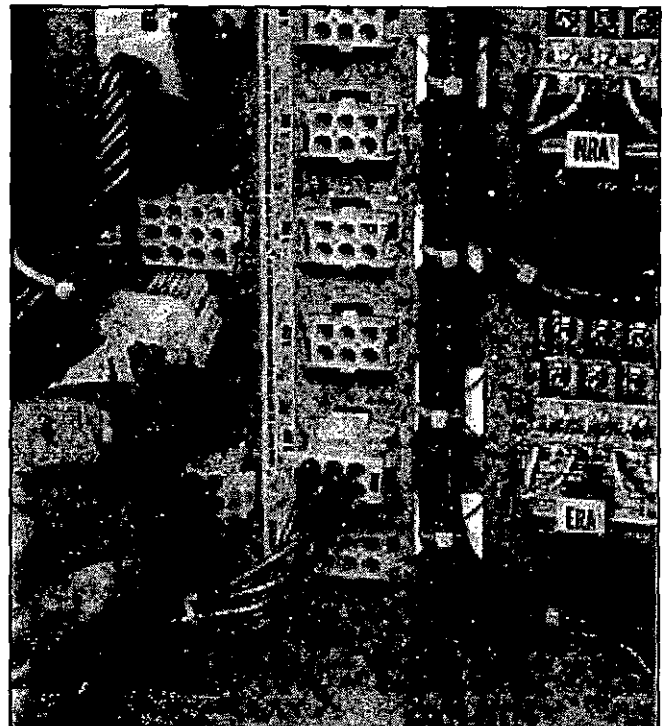

Figure 5-4 Motor Disconnect Being Unplugged
**Note:** *If a transfer switch with any type of electrical operating capabilities is to be operated manually utilizing the manual operating handle, it is strongly recommended that the transfer motor circuit first be isolated. This is accomplished by unplugging the (S3) plug marked motor disconnect (Figure 5-4). Any attempt to operate the manual handle without first isolating the motor circuit causes an automatic transfer.*